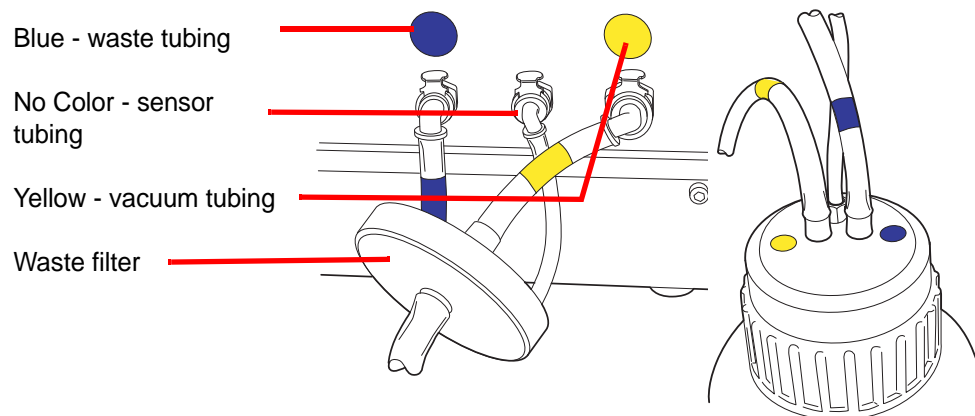

Figure 8-15 Waste Bottle Tubing Connections
3. Locate the three waste bottle connections at the rear of the ThinPrep 5000 processor. See Figure 8-15. Ensure that the buttons of the connectors are in the down/inward position.